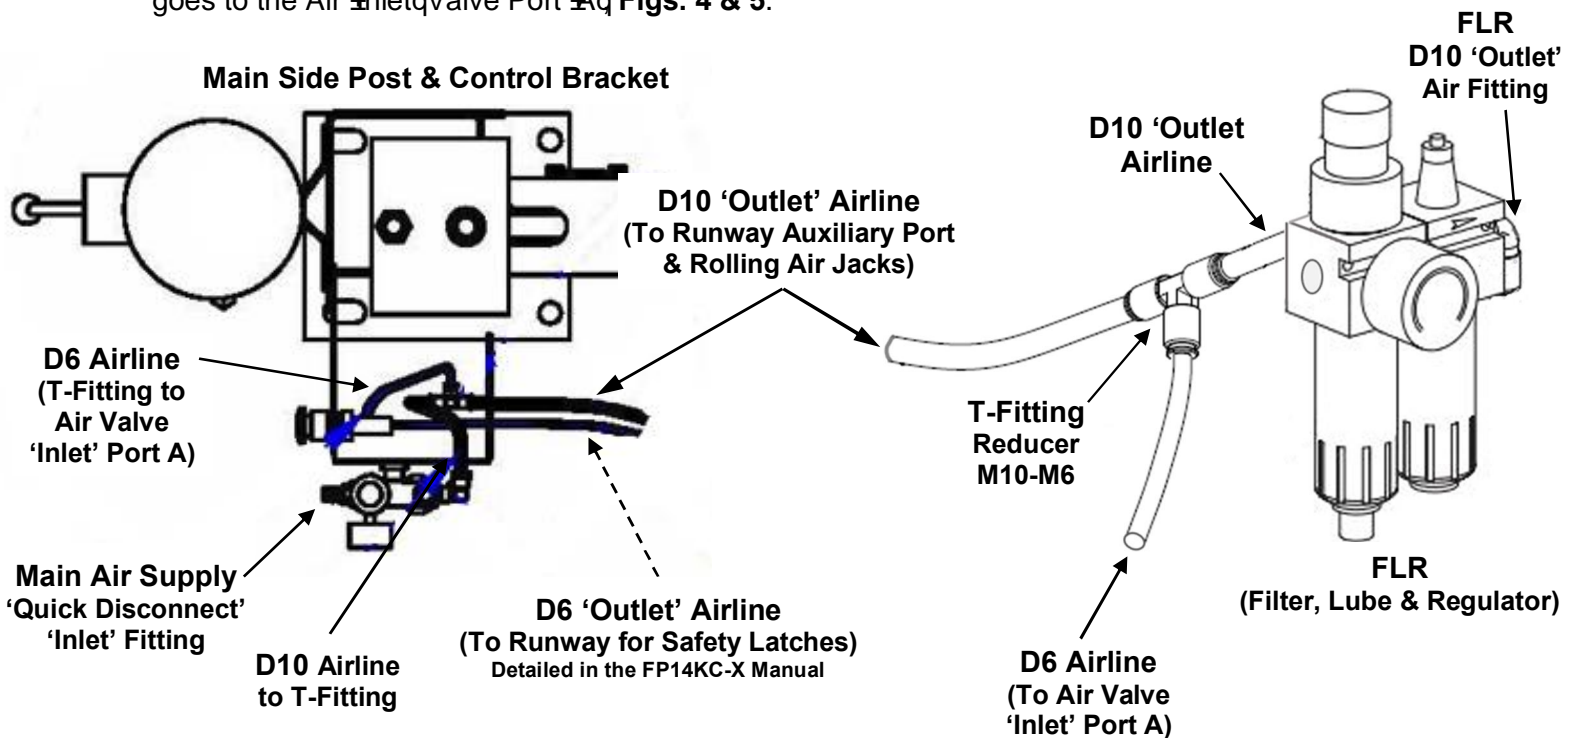

Fig. 4
- 5) Using D10 Airline & Air Fitting T-Connector Reducer (M10-M6), cut a 4+ to 5+ length and connect to outlet port on FRL, making sure to route through the hole in the Control Bracket. Connect the other end, routed through hole in Bracket to one of the (M10) T-Fitting push ends, **Figs. 4 & 5**.
- 6) Connect the previously disconnect D6 Airline end from the Air 'Inlet' Fitting to the (M6) T-Fitting end that goes to the Air 'Inlet' Valve Port 'A' **Figs. 4 & 5**.